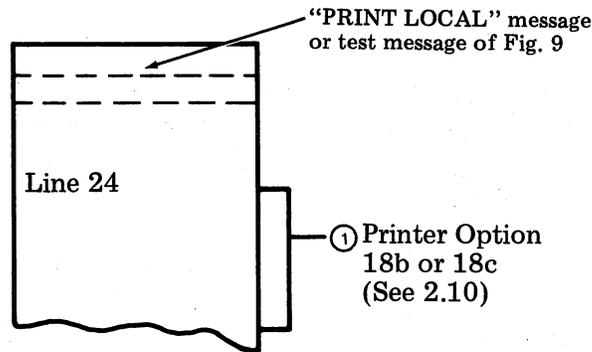

Fig. 10—Printed Test Message
Options 18b or 18c (16-line feed-out on RM loss or 16-line feed out on RM loss or ETX) — This option is illustrated as ① in Fig. 10. After Line 24 of each message, a 16-line feed out will occur on a friction feed printer or a tractor feed printer with Option 39b (Forms Switch OFF) installed. If Option 39a (Forms Switch ON) is installed, a tractor feed printer will form feed after Line 24 of each message is reached. Refer to the Form Selector Lever Setting and the belt and form length chart on the printer to determine if the formout length is correct for the lever setting and belt color.